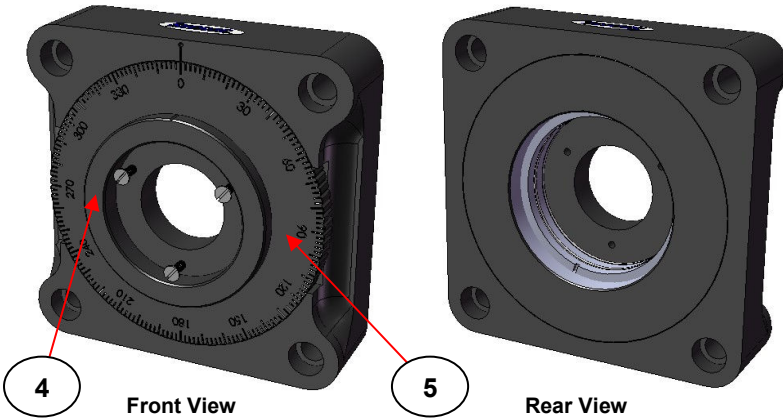

Fig 2. Front and Rear Views of Rotator Mount P/N GS57340 with Protective Covers Removed (No Polarizer Fitted)
From removal of the front (2) and rear (3) covers, the rotator mount is supplied as shown for the front and rear views in Fig 2.